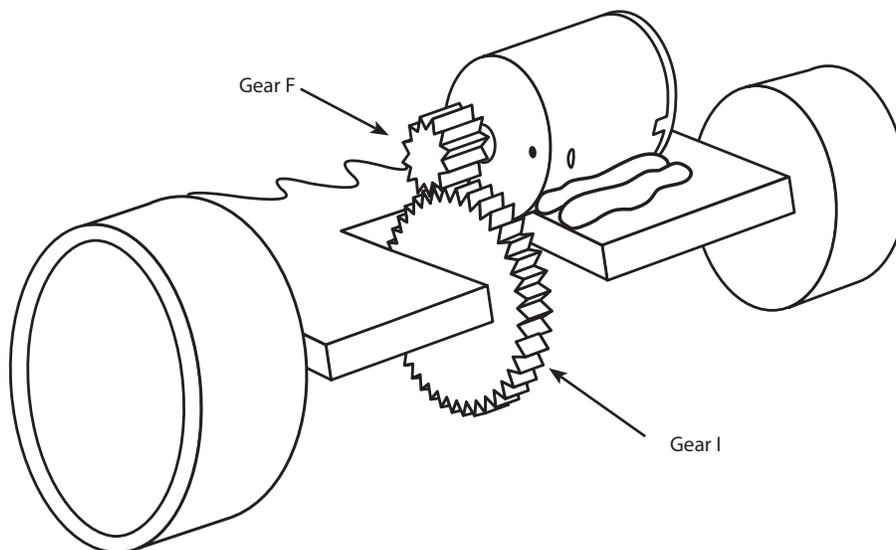

Figure 5
4. Using a cool-melt glue gun, create a 1/2" x 1" rectangle of glue about 1/8" deep (Figure 5).
5. While the glue is still liquid, place the motor on its side (with vent holes up) on the glue so Gear F sits directly on top of and engages Gear I (Figure 5). Be sure not to block the vent holes with glue. Hold the motor in place while the glue dries.